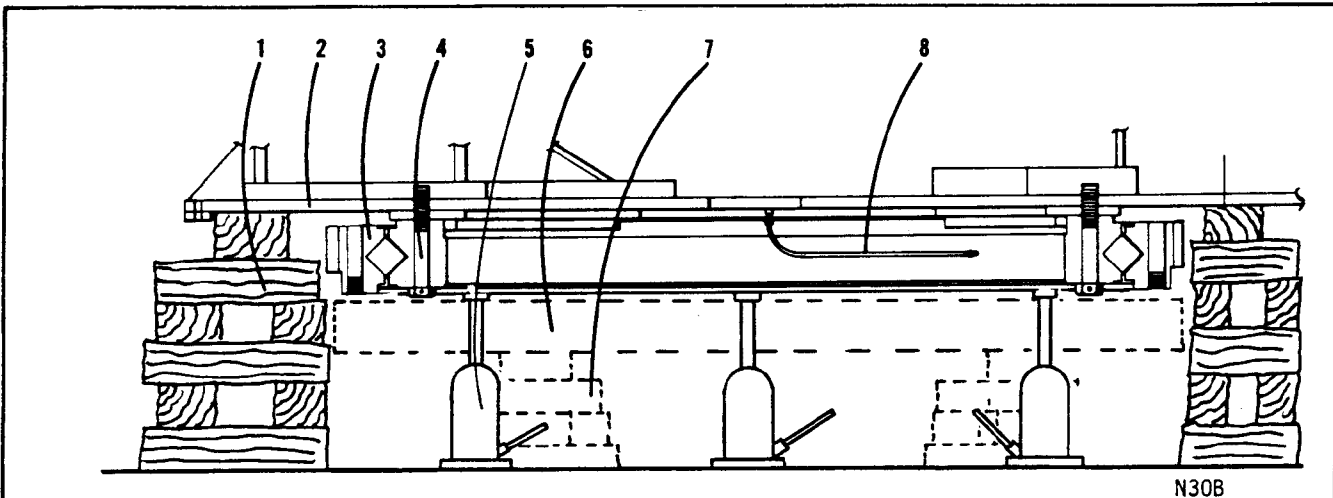

Fig. 3
- Use four piles of blocking, one under each corner of the machine. Block on main frame, not the deck plates or supports. Use clean, dry, hard wood blocking. Stack in a criss cross manner as shown in Fig. 3.
- (d) Disconnect grease lines (8) from bearings.
- (f) Lower bearing, slowly, onto blocking (7).